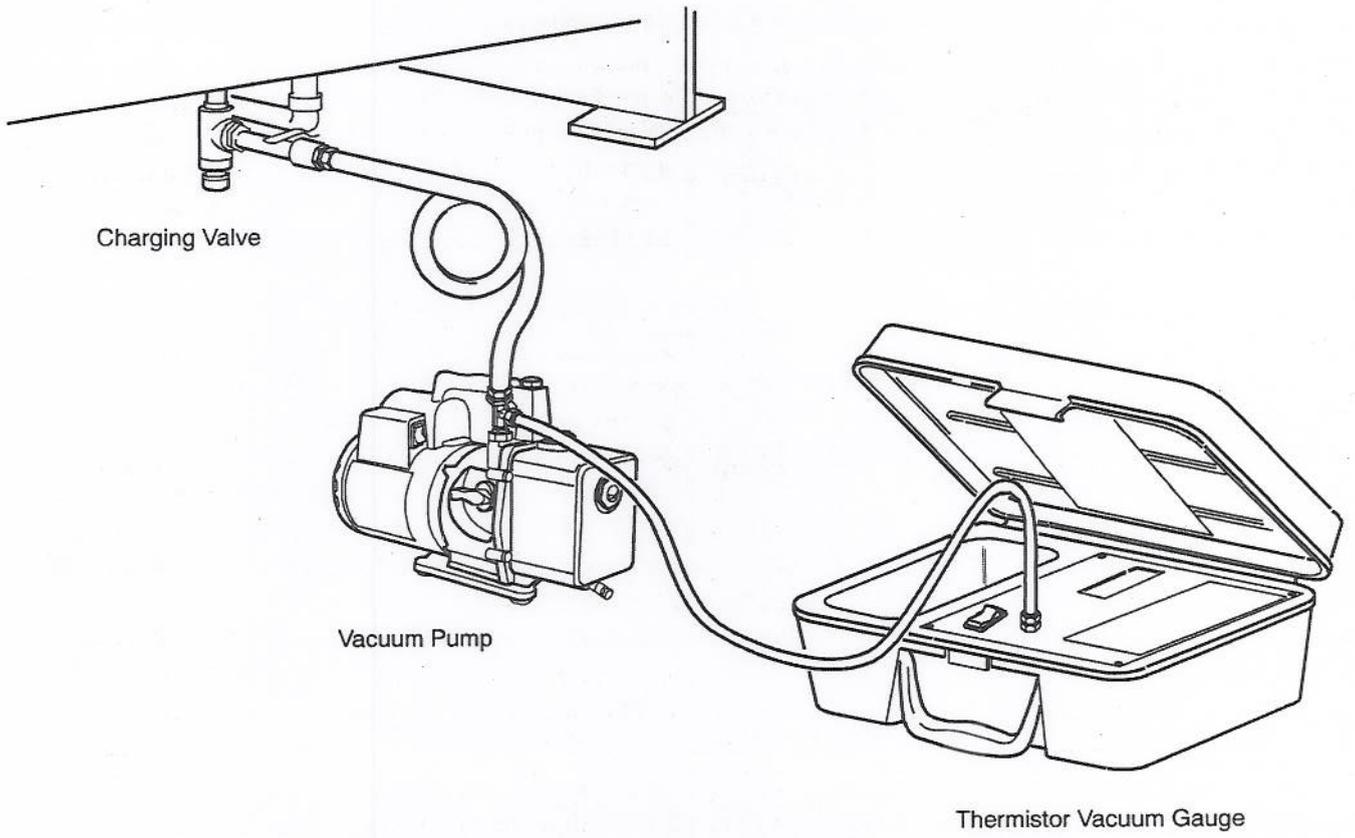

FIG. 24 – EVACUATION OF THE CHILLER
- Connect a high capacity vacuum pump, with indicator, to the system charging valve as shown in Figure 24 and start the pump. (See "Vacuum Dehydration".)